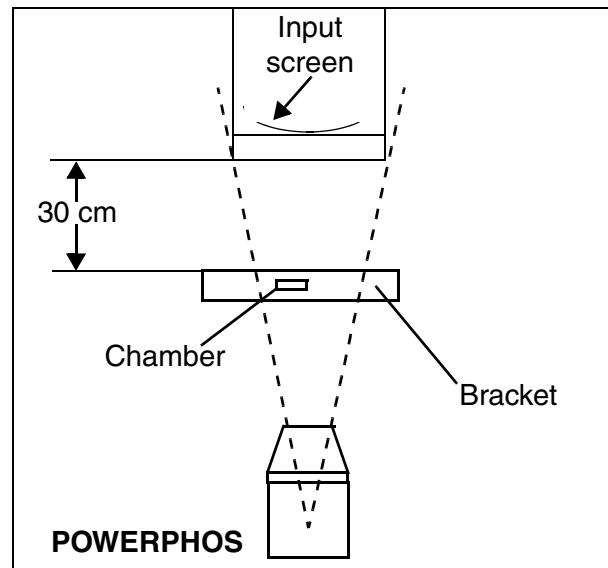

Fig. 3
- Attach the dose measuring chamber at a distance of 30 cm (Fig. 3) from the I.I. housing.